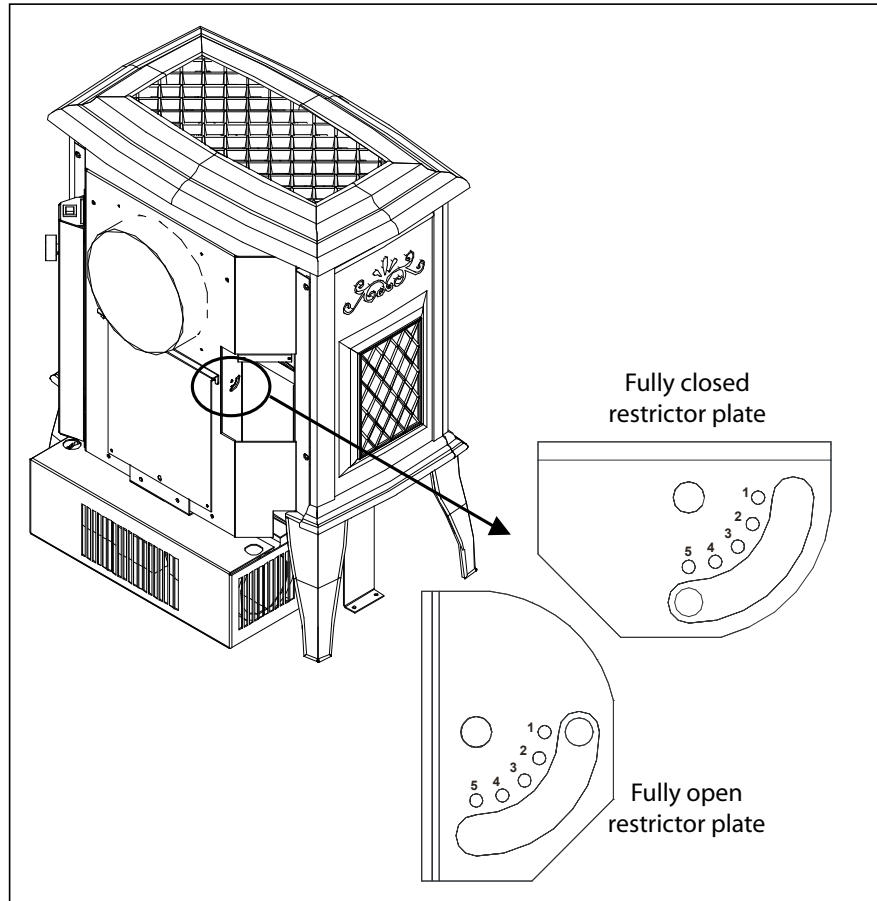
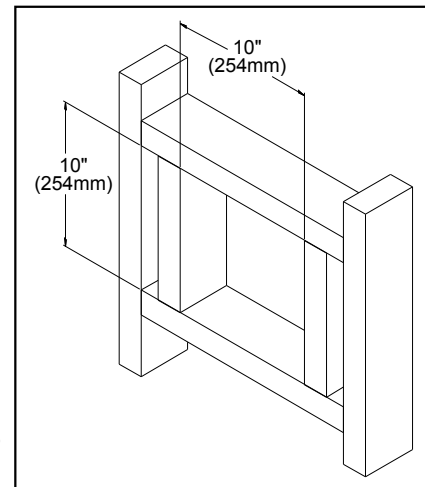

Figure 8. Vent Restrictor Settings.
Figure 13: Wall Framing Hole for Horizontal Installation.
STEP 3. With the pipe attached to the stove in the correct location, mark the wall for a 10" (25.4 cm) x 10" (25.4 cm) square hole (refer to Figure 13). The center of the square hole should match the center line of the horizontal pipe. Cut and frame the 10" (25.4 cm) x 10" (25.4 cm) hole in the exterior wall where the vent will be terminated. Refer to Figure 8. If the wall being penetrated is constructed of non-combustible material i.e. masonry or concrete, a 7 inches (17.8 cm) hole is acceptable.